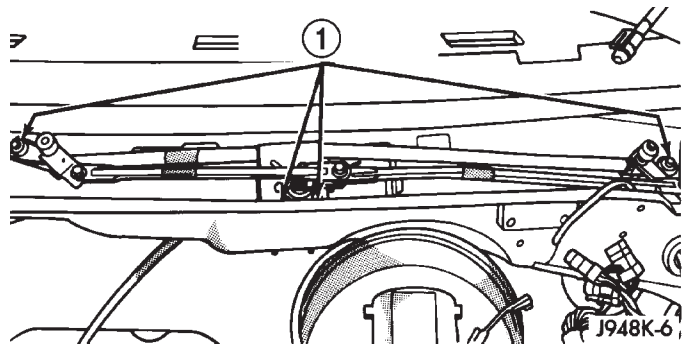

Fig. 8 Wiper Module Remove/Install
- (1) Disconnect and isolate the battery negative cable.
- (2) Remove the wiper arms from the wiper pivots. (Refer to 8 - ELECTRICAL/WIPERS/WASHERS/WIPER ARMS - REMOVAL).
- (3) Remove the cowl plenum cover/grille panel from the cowl plenum. (Refer to 23 - BODY/EXTERIOR/COWL GRILLE - REMOVAL).
- (4) Remove the four screws that secure the wiper module bracket to the cowl plenum panel and the dash panel (Fig. 8).
(3) Reconnect the headlamp and dash wire harness connector for the wiper motor to the wiper motor pig-tail wire connector.
(4) Reach into the cowl plenum to align the wiper module mounting bracket with the locations for the mounting screws (Fig. 8).
(5) Install and tighten the four screws that secure the wiper module bracket to the cowl plenum panel and the dash panel. Tighten the screws to 8 N·m (72 in. lbs.).
(6) Reinstall the cowl plenum cover/grille panel onto the cowl plenum. (Refer to 23 - BODY/EXTERIOR/COWL GRILLE - INSTALLATION).
(7) Reinstall the wiper arms onto the wiper pivots. (Refer to 8 - ELECTRICAL/WIPERS/WASHERS/WIPER ARMS - INSTALLATION).
(8) Reconnect the battery negative cable.